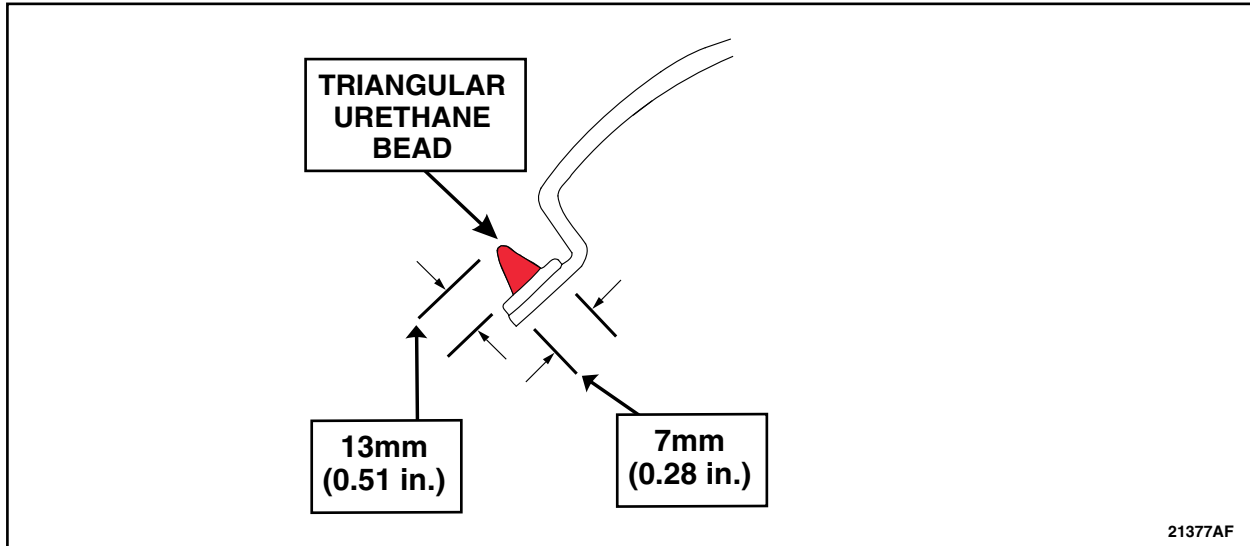

FIGURE 7
5. Using a mechanical or power caulk gun, apply some SikaTack® (MACH 60/MACH 30) or Dow® BETASEAL™ Express urethane in a triangular bead 7mm (0.28 in) wide by 13mm (0.51 in) high in the center the primed surface of the *new* hard top rear cap assembly quarter window glass flanges and overlap the bead along front edge of *new* hard top rear cap assembly quarter window glass flanges. The position of the urethane bead should be 14mm (0.55 in) from the outer edge of the *new* hard top rear cap assembly flange to the bead. See Figures 7 and 8.